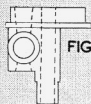
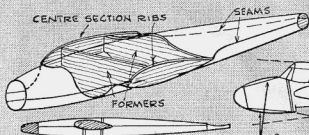
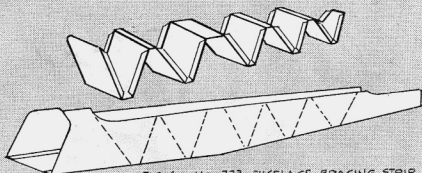

FIG. 3
FIG. 2. DORNIER 17 FUSELAGE.
FIG. 4. ME. 323 FUSELAGE BRACING STRIP.
While the drawing in Fig. 1 shows the arrangement quite well, I feel that the little free-hand sketch in Fig. 2 will make the matter clearer for most readers, besides affording some amusement for Mr. Rupert Moore and, possibly, Freddie. Disregarding the artistic merits of the sketch, readers will see something of the actual shape of the contact breaker casting, and it will be noted that the fork in which the rocker pivots is integral with the casting, which is held to the rear bearing-housing by means of a split collar and bolt. Contact of the lower part of the rocker arm upon the cam is maintained by a stiff spring (marked x), while the rocker arm itself passes through a hole in the long ignition lever. Taking it all round, I think that the arrangement provides everything that we may look for in a contact breaker.
Before referring to these, we may again glance at my sketch in Fig. 2, which shows how the carburettor casting and the shaft-housing are integral with the rear cover of the crankcase. This sketch does, in fact, depict the manner in which the carburettor and petrol tank are attached to the engine, while Fig. 3 gives details of the casting. This is a plan view of the component, viewed as if looking from the top of the engine. Fig. 4 is the end view of the casting, where it will be noted that the carburettor portion has two circular lugs on the top and bottom. The matter is amplified by the drawing (Fig. 5) of a section taken on a line (A), (A). Here, it will be seen that the hole for the inlet valve in the crankcase back has been continued to form a venturi-shaped opening for the air intake of the carburettor, while a vertical hole provides a housing for the body of the carburettor itself.
A FIG. 4
Very few fuselages can be made in one piece, and are normally divided into sections for every change in angle of the top or bottom lines, each section being tubular, with balsa formers at the joints. For each section the length and perimeter at the ends are known, the latter being determined by wrapping a strip of card around the previously cut formers, a good margin being left at the ends. Seams are usually along either the top or bottom centre-line, but in an early model of a Dornier Do. 17, in which wing and fuselage merge gradually into each other, the fuselage was split along either side, and the bottom sections carried out to ribs at the end of a stub centre-section. (See Fig. 2.)
Rectangular section fuselages appear to be ideal for cardboard modelling, but, while easy to make, soon sag badly between supporting formers and look very poor. The best solution found so far was used on a Me. 323, and consists of a concertina-like strip of formers running from nose to tail, carefully positioned to avoid all windows. (See Fig. 4.) Fuselages with flat sides, top and bottom, but rounded corners, which are curved in both plan and side elevation may be fitted with rounded balsa strip edges, bent around the completed cardboard structure, as shown in Fig. 5.